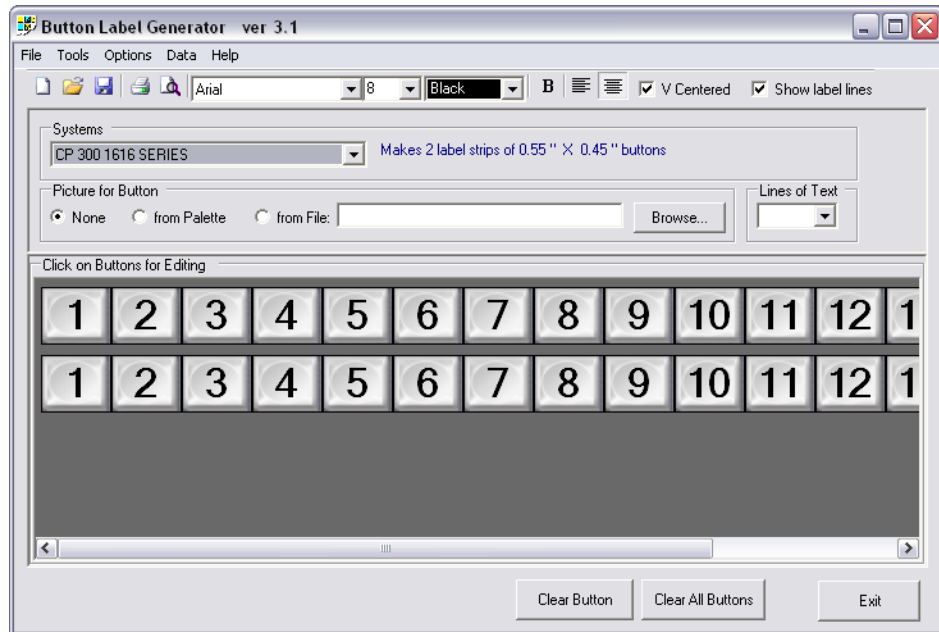

Figure 53. Extron Button-Label Generator Window
1. To run the Button-Label Generator program, click **Start > Programs > Extron Electronics > Button Label Generator > Button Label Generator**. The Button-Label Generator window appears (see figure 53).